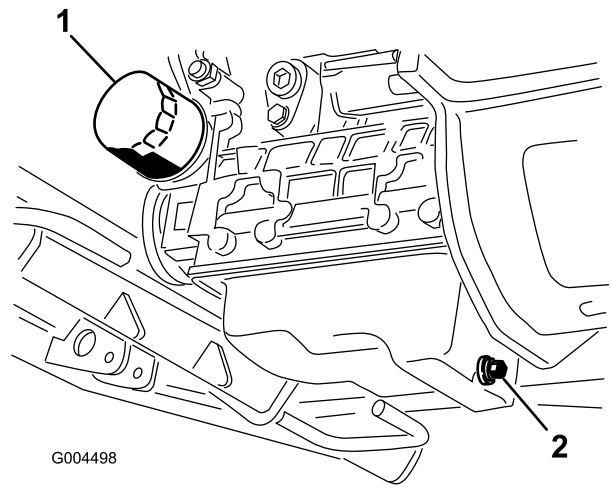

Figure 60
6. Remove and replace the oil filter (Figure 60).
3. Set a drain pan under the oil pan and in line with the drain plug (Figure 60).